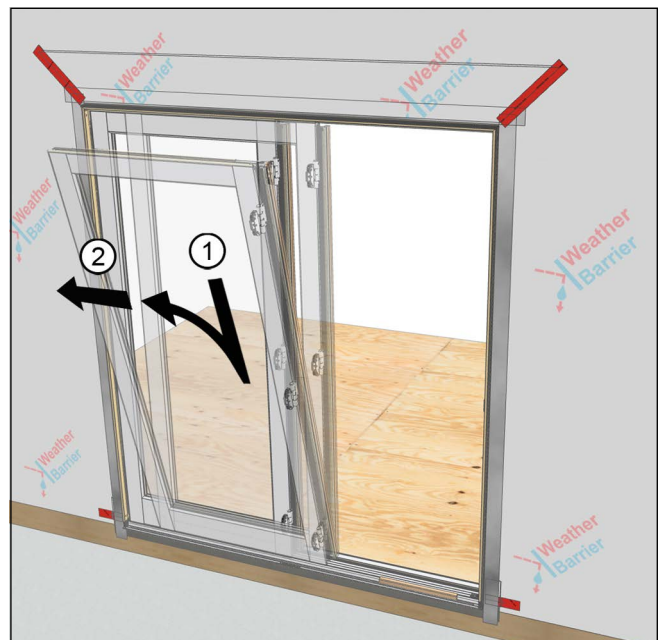

Figure 14
1. Stationary panel is installed first by tipping panel in over the sill retainer and then sliding over and engaging the panel bracket into the sill retainer and jamb retainers. See Figure 14.